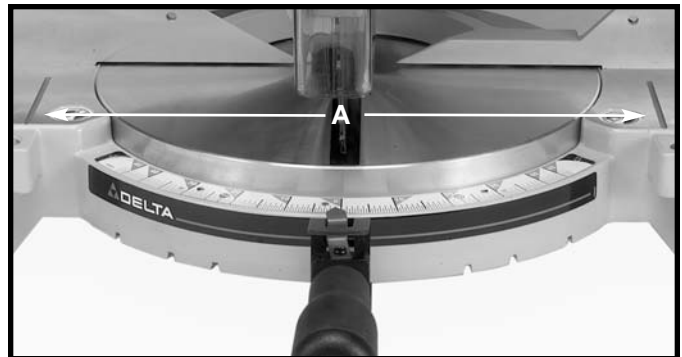

Fig. 15
**WARNING: THE AREA INSIDE THE TWO RED LINES (A) FIG. 15 ON THE TABLE IS DESIGNATED AS A HAZARD ZONE. NEVER PLACE YOUR HANDS INSIDE THIS AREA WHILE OPERATING THE TOOL.**